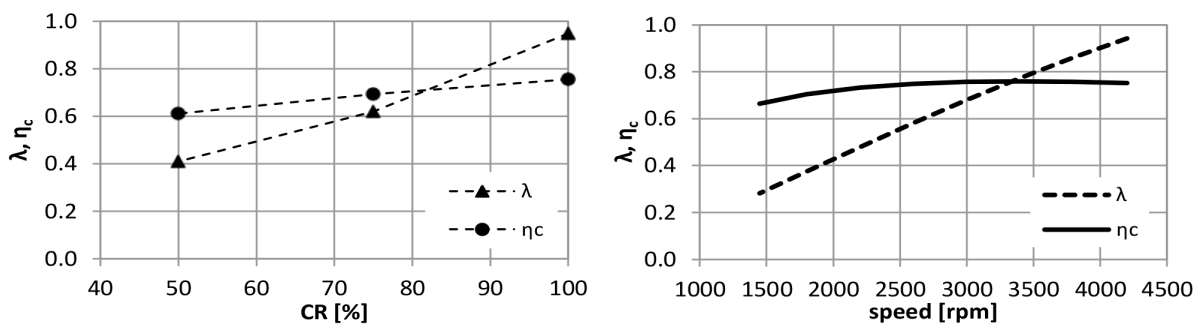

Figure 2. Example of compressor performance data curves.
Figure 2 shows typical dependencies of the compressor part load index (λ) and isentropic efficiency (η_c) for a typical chiller condition ($T_o/T_c = +5/+35\text{ }^\circ\text{C} / +41/95\text{ }^\circ\text{F}$). The left figure shows the efficiencies as a function of capacity slide valve position (CR), and the right figure shows them depending on compressor shaft speed. The software to calculate compressor performance (BITZER 2016) contains data based on extensive measurements with different compressor models over the whole range of operating conditions, shaft speeds, and capacity slide positions.
The performance data curves (Figure 2) show that part load index (λ) and energetic efficiency (η_c) for a compressor can be controlled by two parameters: speed and capacity slide position. Operating conditions are assumed to be constant in this paper, but they can also depend on capacity, i.e., evaporating temperature will rise as evaporator load decreases.